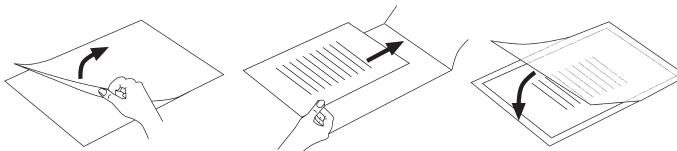

Fig. 2
- Ensure that you use only one pouch for laminating. First open it up, as shown in Fig. 2.
- Make certain that you use only one pouch for laminating. First open it up, as shown in Fig. 2 (see p. 36).